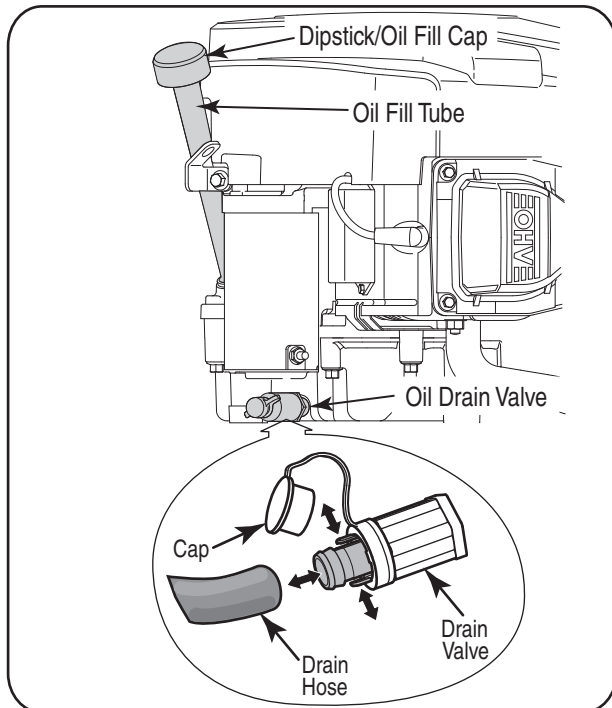

Figure 6-1
3. Pop open the protective cap on the end of the oil drain valve to expose the drain port. See Figure 6-1. Remove the oil fill cap/dipstick from the oil fill tube.
5. Pinch the tabs on the oil drain valve, then pull outward to begin draining oil. Refer to Figure 6-1.